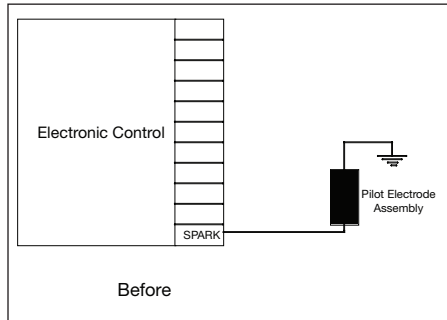

Figure 11
2. Remove the wire from the Electronic Control "SPARK" terminal that goes to the Pilot Electrode Assembly from Electronic Control as shown in **Figure 11**.